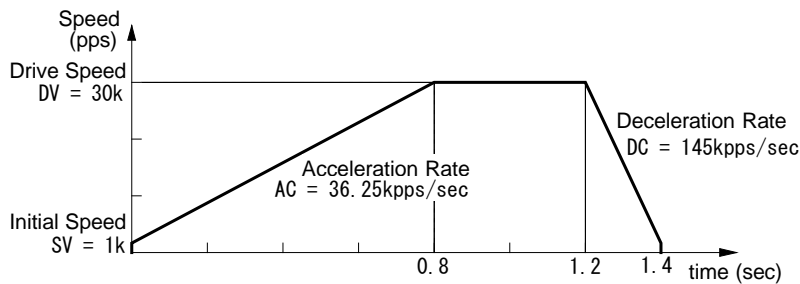
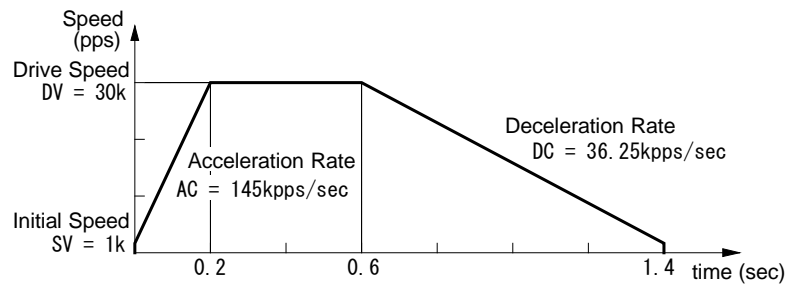

Fig. 2.2-6 Non-Symmetrical Linear Acceleration Driving (acceleration < deceleration)
Fig. 2.2-7 Non-Symmetrical Linear Acceleration Driving (acceleration > deceleration)
This IC can perform automatic deceleration in non-symmetrical linear acceleration / deceleration fixed pulse driving where acceleration and deceleration are different. It is not necessary to set a manual deceleration point by calculation in advance. Fig. 2.2-6 shows the case where the deceleration is greater than the acceleration and Fig. 2.2-7 shows the case where the acceleration is greater than the deceleration. In such non-symmetrical linear acceleration, the automatic deceleration start point is calculated by the IC based on the number of output pulses in fixed pulse driving and each rate parameter.
- In non-symmetry linear acceleration / deceleration driving, when acceleration > deceleration (Fig. 2.2-7), the following condition is applied to the ratio of acceleration and deceleration.
- In non-symmetry linear acceleration / deceleration driving, if acceleration > deceleration (Fig. 2.2-7), the greater the ratio of acceleration AC to deceleration DC becomes, the greater the number of creep pulses becomes (about maximum of 10 pulses when AC/DC=10 times). When creep pulses cause a problem, solve the problem by increasing the initial speed or setting a minus value to the acceleration counter offset.
As shown in Fig. 2.2-6, parameter setting of relative position driving in non-symmetrical linear acceleration / deceleration (acceleration < deceleration) is shown below.